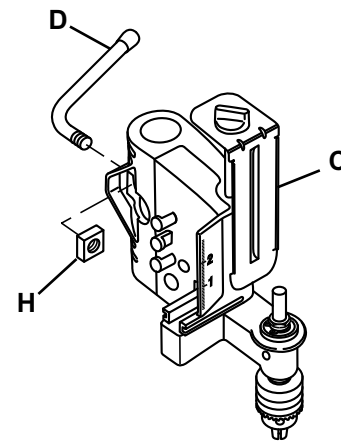

Figure 2
3. Assemble adjustment handle (**D**) to head assembly (**C**) with square nut (**H**). Place square nut in recess in back of head assembly. Insert adjustment handle through head assembly and thread it into square nut three full turns. See Figure 2.